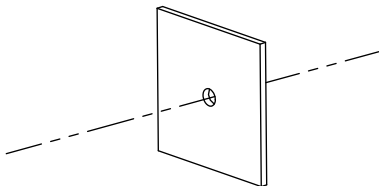

Figure 2-24 Drill on the Surface
1. Drill on the mounting surface, as shown in Figure 2-24.